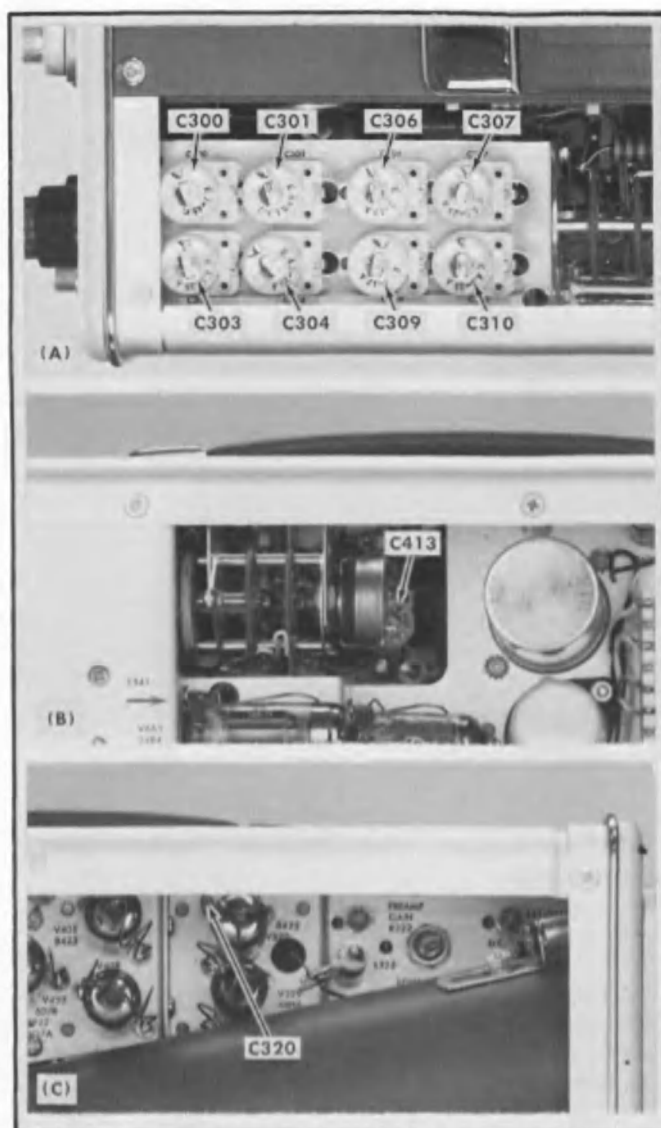

Fig. 5-12. Location of compensation adjustments (A) top, (B) right side, (C) left side.
n. ADJUST—VOLTS/DIV switch series compensation as given in Table 5-2 for best square corner on the displayed waveform (use low-capacitance screwdriver). Remove the attenuators and terminations as given in Table 5-2 and readjust the generator output amplitude at each VOLTS/DIV switch setting to maintain a four-division display. Fig. 5-12 shows the location of the variable capacitors.
waveform (use low-capacitance screwdriver). Readjust the generator output amplitude at each setting to maintain a four-division display, or to provide maximum vertical deflection in the 10 position. Fig. 5-12 shows the location of the variable capacitors.